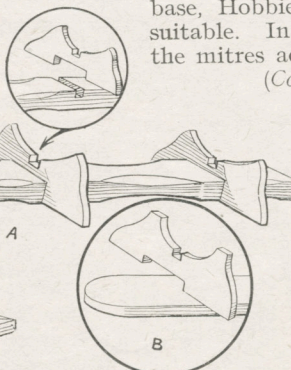

Fig. 2—A simple shaped base
In the larger circle in Fig. 2 (B), another base of similar design is shown. In this a flat strip is adapted with rounded ends, but no cut out recess, and the uprights are simply glued and screwed through to it.